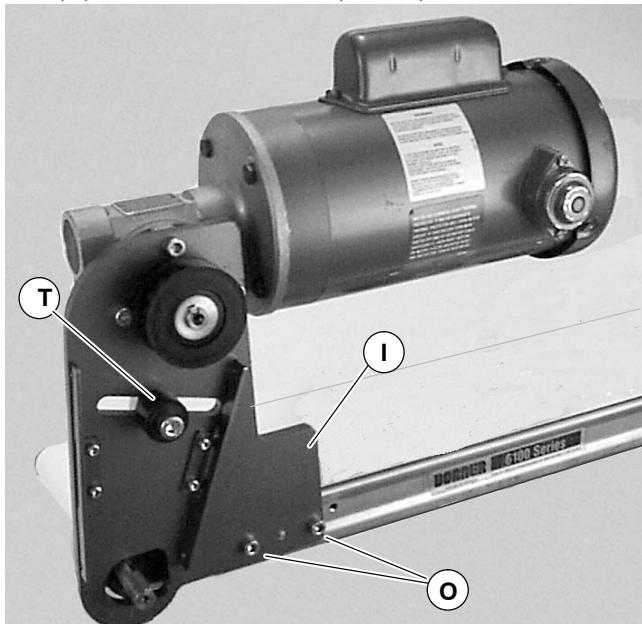

Figure 13
5. Attach mount assembly (I of Figure 13) with screws (O). Tighten to 80 in-lb (9 N-m).
8. Remove cam bearing and spacer (T of Figure 13). Place the cam bearing and spacer (T of Figure 13) next to the driven pulley (M). Ensure the flanges of the driven pulley are aligned with the cam bearing. Tighten driven pulley set screws (U). This will allow for proper belt alignment while conveyor is in use. Replace cam bearing and spacer (T).